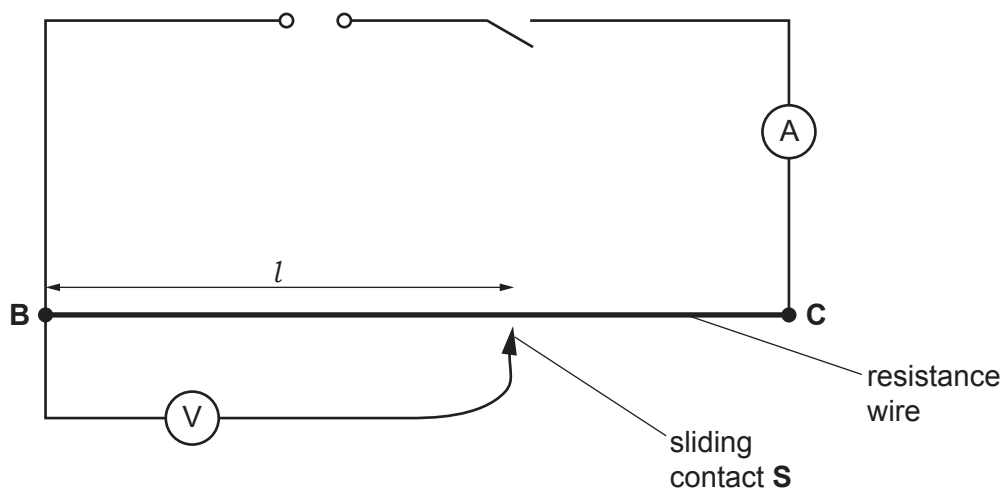
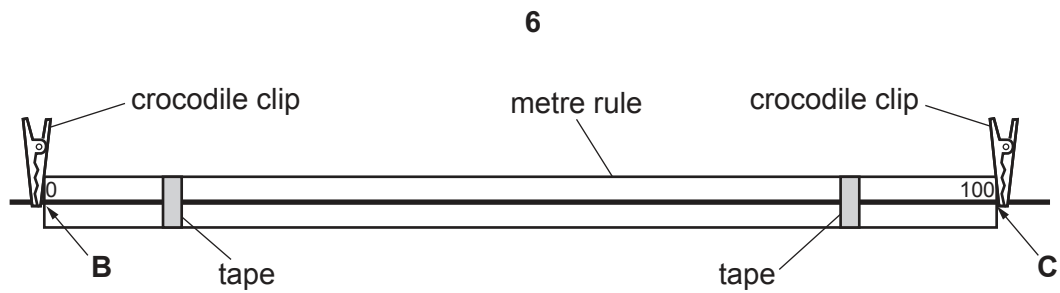

Fig. 3.1
Fig. 3.2
- (vi) Two suitable terminals (e.g. crocodile clips) attached to the constantan wire at the ends of the metre rule so that connections can be made to the circuit shown in Fig. 3.1.
- (viii) Sufficient connecting leads to set up the circuit shown in Fig. 3.1.
1. The circuit is to be set up for the candidates as shown in Fig. 3.1 and Fig. 3.2.
4. The wire must be attached to the metre rule as shown in Fig. 3.2.
Check that the circuit is arranged as shown in Fig. 3.1.